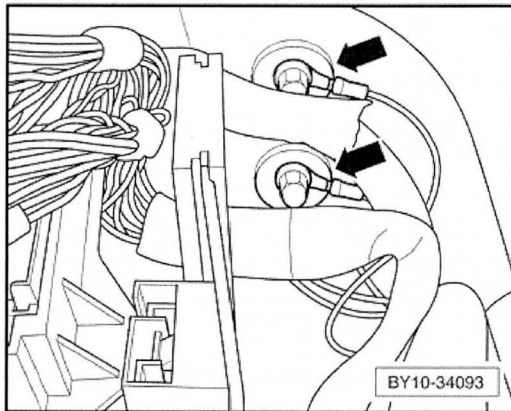

Figure 9
- The engine harness label is attached to the earth lead branch off section which connects to the bulkhead earth studs on the left hand side of the bulkhead next to the engine bay fusebox (Figure 9) due to the fitting location of the label access is difficult as the label is located under the engine bay fusebox